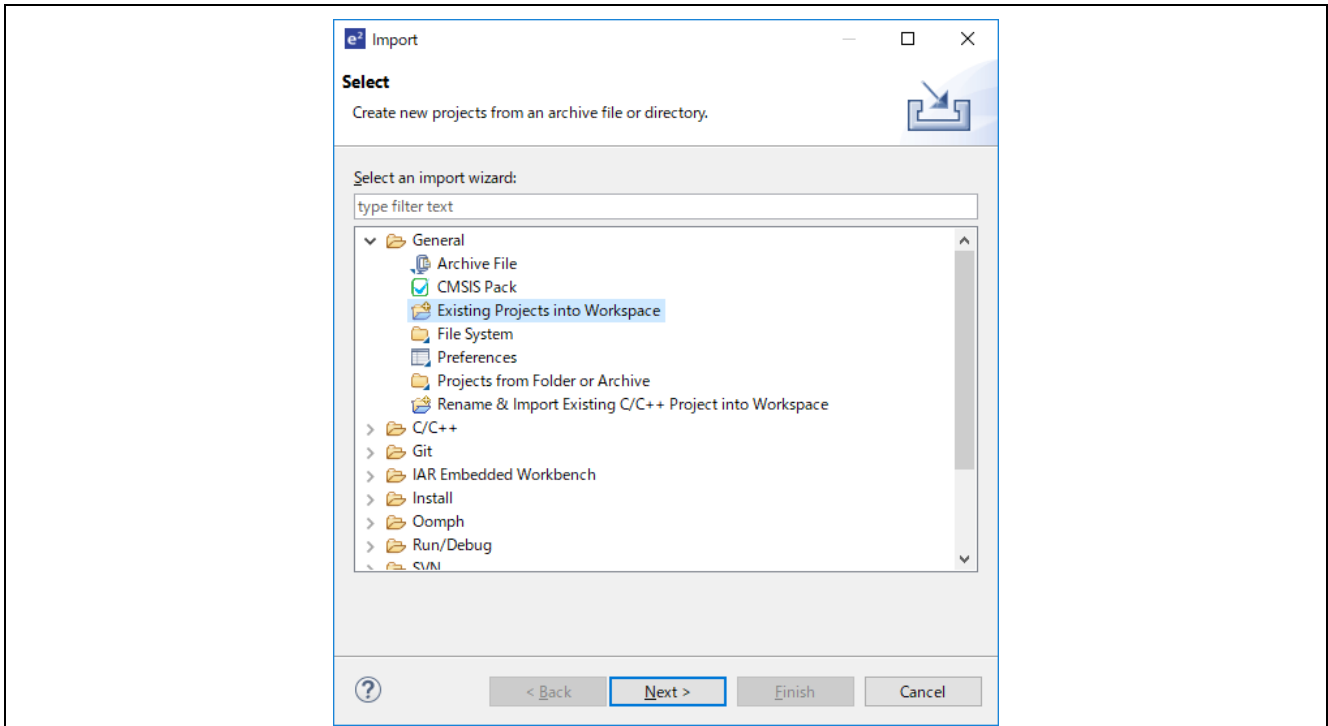

Figure 6-3. Select import wizard
5. Select [General] → [Existing Project into workspace] and then following dialog will appear (Figure 6-3)